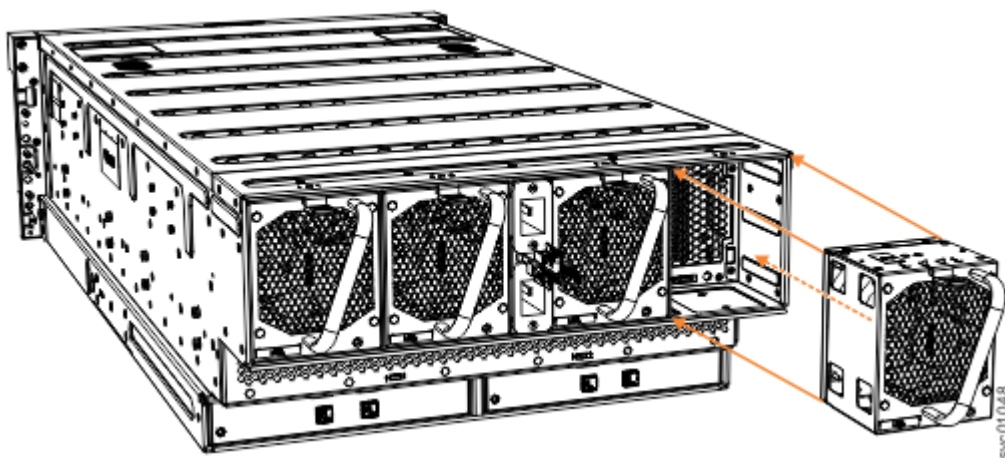

Figure 122. Remove fan module
3. Use the handle to pull the fan module out of the expansion enclosure chassis, as shown in Figure 122 on page 103.